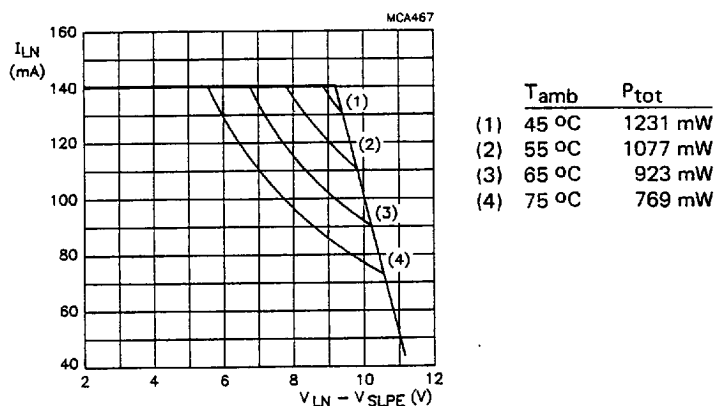

Fig.3 TEA1060/1061 safe operating area.
1. Mostly dependent on the maximum required  $T_{amb}$  and the voltage between LN and SLPE (see Fig.3).